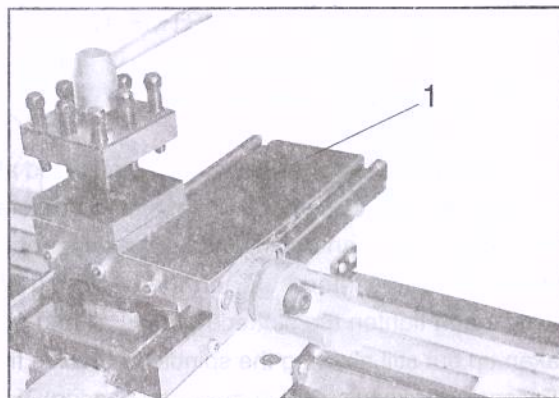

Fig.1
Remove the 2 screws holding the spindle bracket in position and unscrew the spindle,adjust the screw ring (1)until all backlash has been eliminated.(Fig.1).